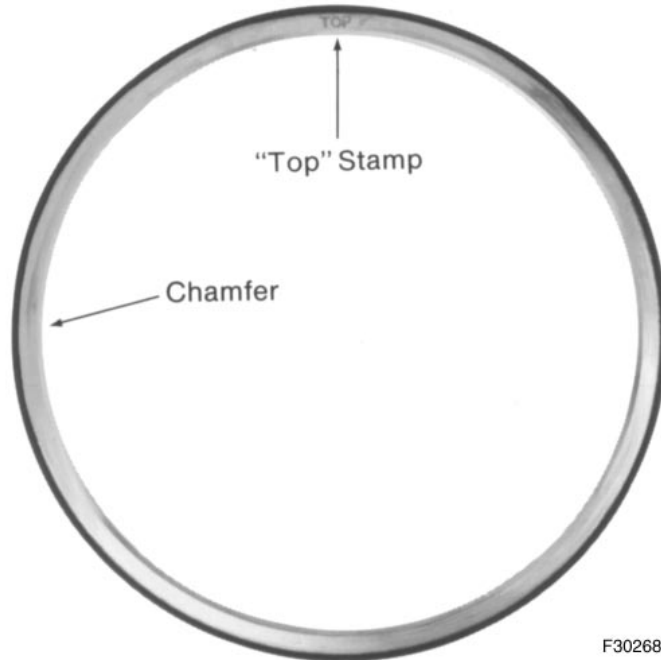

Figure 5-20. Cylinder Head Seat Ring
59. Check that the bottom surface of the head is clean and place the seat ring, Figure 5-20. on the head, making sure that the chamfered side is facing up.